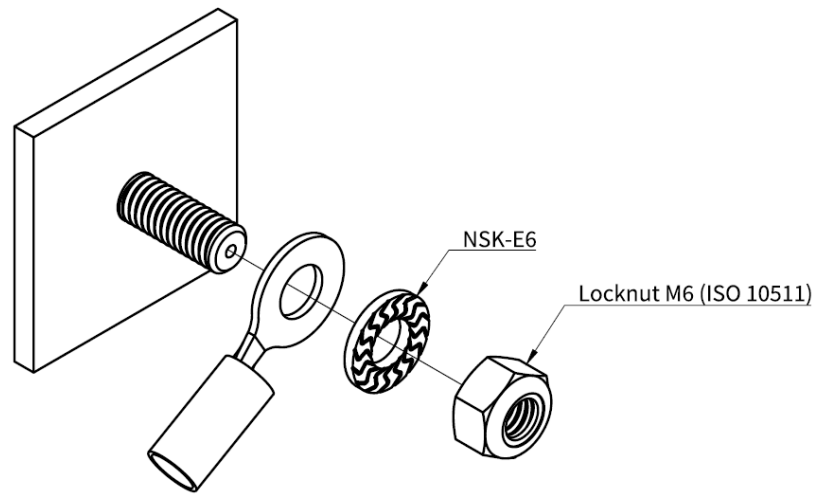

Figure 6 Earth Cable Mounting on Earth Stud
- Mount the earth cable as shown in Figure 6.